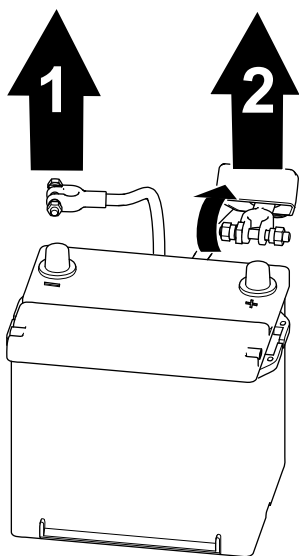

Figure 62
1. Remove the negative battery cable from the battery post (Figure 62).